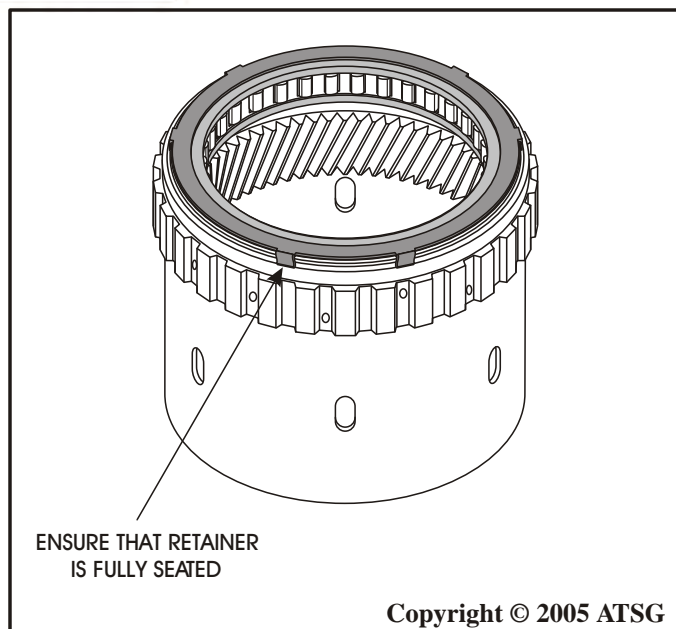

Figure 98
9. Ensure that low sprag retainer is fully seated, as shown in Figure 98, and check it the full 360 degrees.